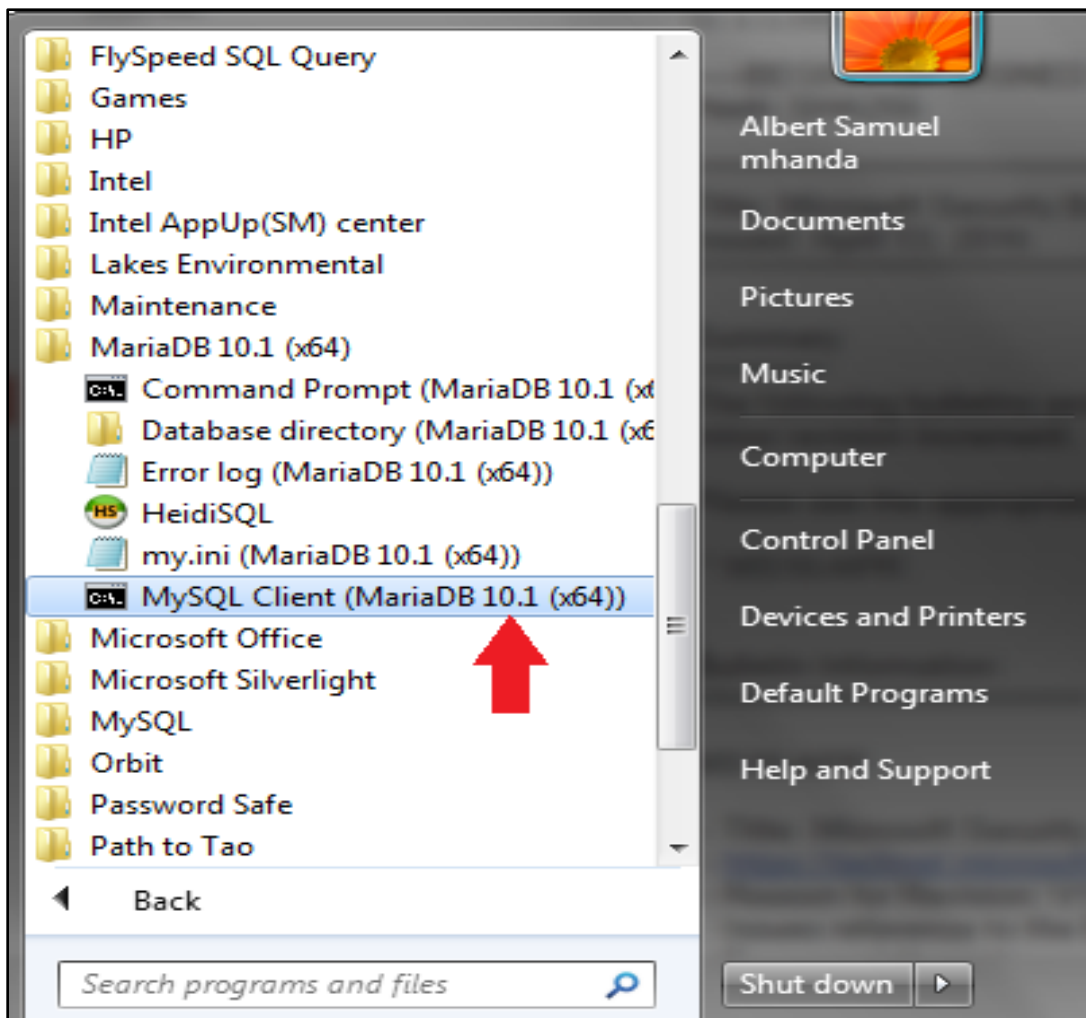

Figure 2: Launching the MariaDB Client
- (i) Launch MariaDB Prompt from your **Start Windows** program by clicking on the **MySQL Client (MariaDB 10.x)** as shown in Figure 2. You can also type the name "**MariaDB**" in the search box. Dialog obtained may look different, depending on your Version of Windows.